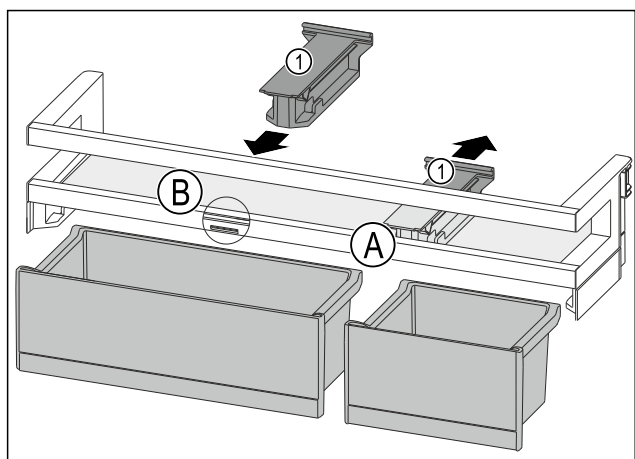

Fig. 82
- Take off the holding part Fig. 82 (1) in position Fig. 82 (A) backwards.
- Insert the holding part Fig. 82 (1) in position Fig. 82 (B).